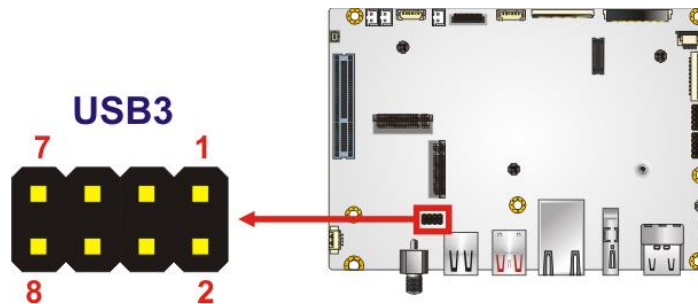

Figure 3-17: USB Type-C Port Pinouts
- CN Location:** See **Figure 3-17**